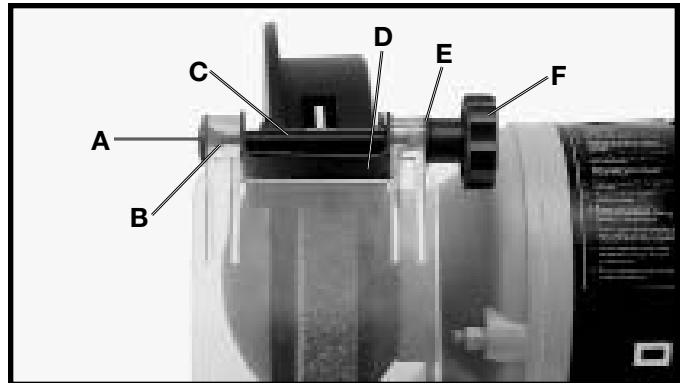

Fig. 8
3. Insert the eye shield bolt (A) Fig. 8, through the hole in the eye shield (B), eye shield bushing (C), and spark guard (D).
4. Place an 11/16" flat washer (E) Fig. 8, onto the end of the eye shield bolt and fasten the eye shield knob (F) to the end of the eye shield bolt.